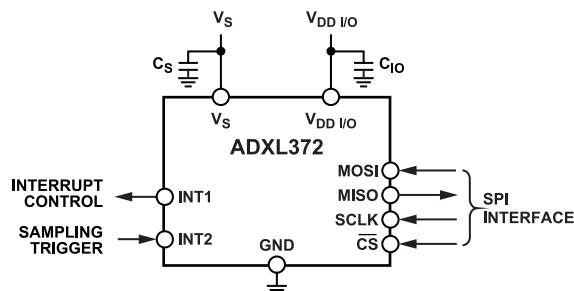

Figure 107. Using the INT2 Pin to Trigger Synchronized Sampling
**Figure 107** is an application diagram for using the INT2 pin as a trigger for synchronized sampling. Acceleration samples are produced every time this trigger is activated. Set the EXT\_SYNC bit in the TIMING register to enable this feature.